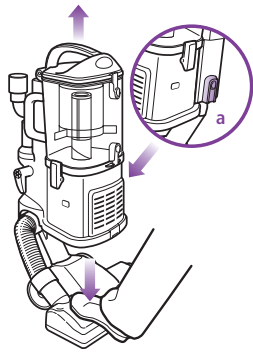

Fig. 9
**NOTE:** To change floor nozzles (models NV350, NV350A & NV350E only) press the red release button (a) on the side of the detachable canister, gently hold the nozzle to the floor with your foot and pull the detachable canister up. (Fig. 9)